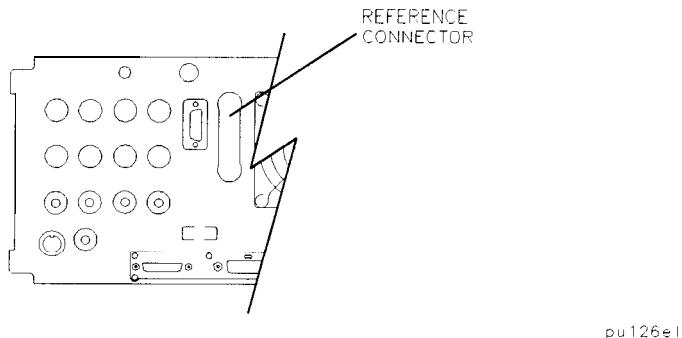

Figure 1-4. Reference Connector
1. **For an HP 85901, HP 8592L, HP 8591 E, HP 85933, HP 8594E, HP 8594L, HP 8595E, or HP 85963** ensure the reference connector is connected between the 10 MHz OUTPUT and EXT REF IN rear-panel connectors. See Figure 1-4.